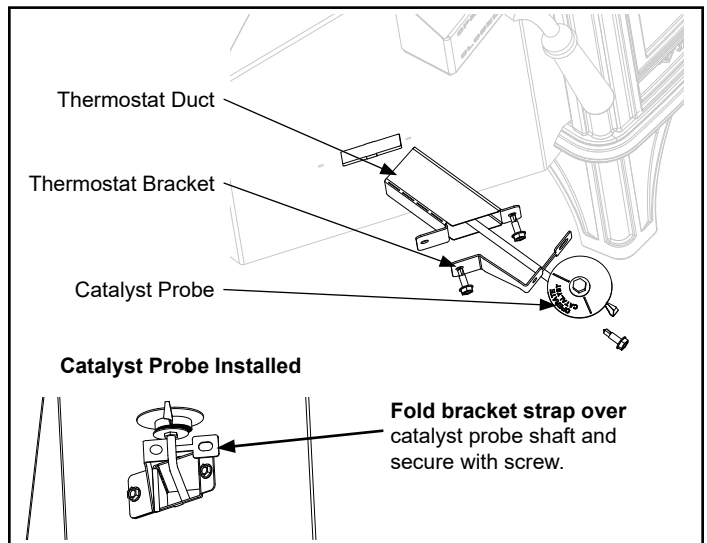

Figure 5.9 - Install the Catalyst Temperature Probe
If the catalytic performance pack has been purchased, install the catalyst temperature probe, remove the knockout located at the back left hand side of the unit, Figure 5.9. Once knockout is removed, drill a hole using the 3/16" Drill bit supplied in the dimple located just behind the air jacket. Install thermostat duct, bracket and temperature probe using (2) #8 Tek screws also supplied in the kit. Lastly, make sure to fold the bracket strap over catalyst probe and secure with remaining screw.